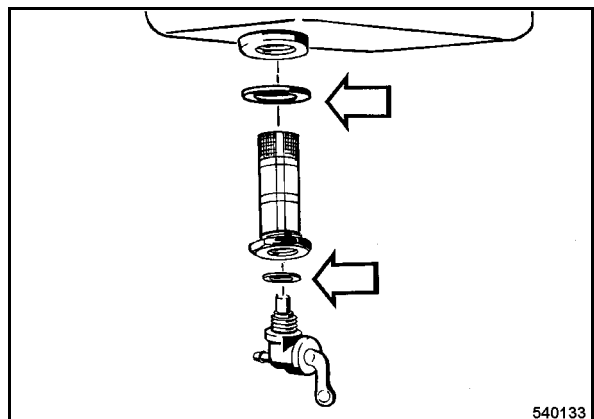

Fig. 55
- Screw fuel screen and fuel valve back in, both with new seals (Fig. 55).